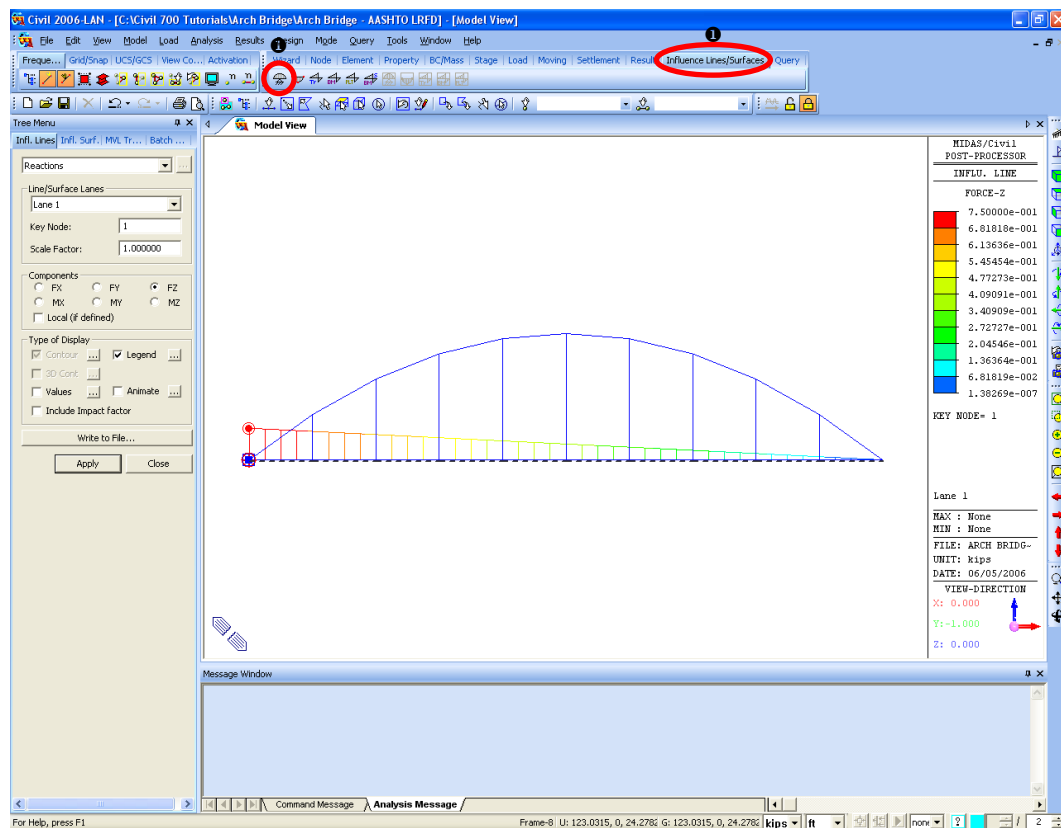

Figure 4.29 Reaction Influence Line
First we will examine the influence lines for a support reaction. Figure 4.29 shows the results for support B1 (node 1).
2. Click  **Reactions** on the *Influence Lines/Surface* tab in the toolbar (Figure 4.29).